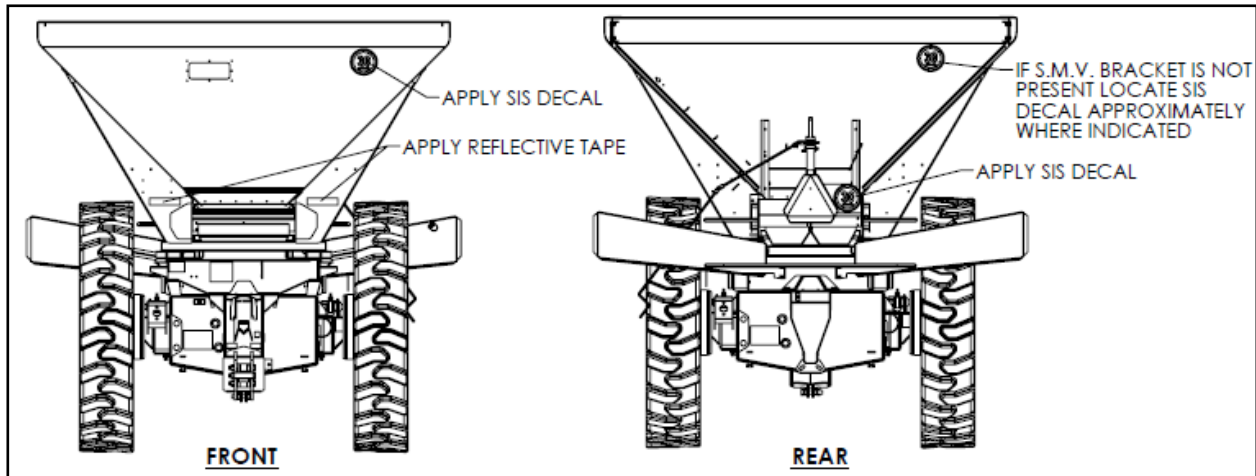

Figure 19a - Spreader Front and Rear
2. Install SIS decals and reflective tape (Figure 19a & 19b).
NOTE: If dry nutrient applicator does not have SMV bracket, position SIS decal in upper right corner of endgate as shown in Figure 19a (Rear).